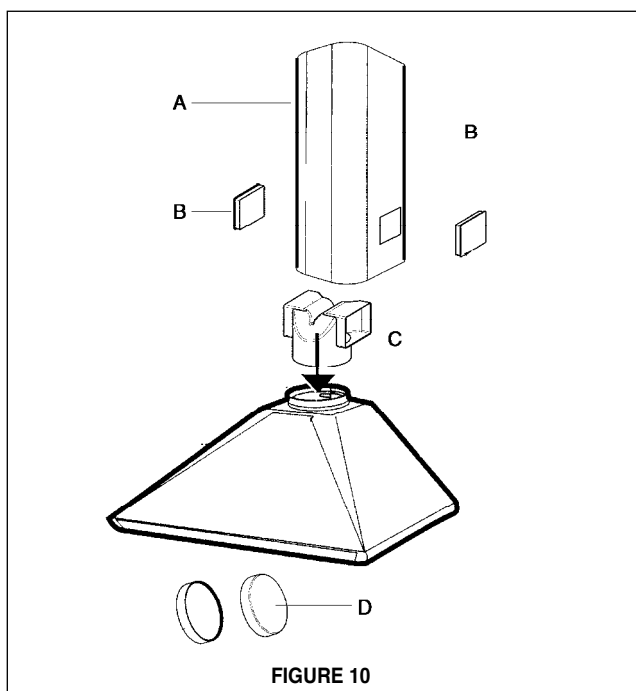

FIGURE 10
Ductless installations require a **Ductless Conversion Kit**. This kit consists of a LOWER CHIMNEY DUCTLESS (A in FIGURE 10) with holes for the exhaust air, a DUCTLESS DIVERTER (C), two VENT GRIDS (B) to cover the holes in the chimney cover, and two CHARCOAL FILTERS (D). The DUCTLESS DIVERTER must be installed before the LOWER CHIMNEY DUCTLESS is attached (as indicated by the arrow in FIGURE 10). The LOWER CHIMNEY COVER without holes should be discarded.